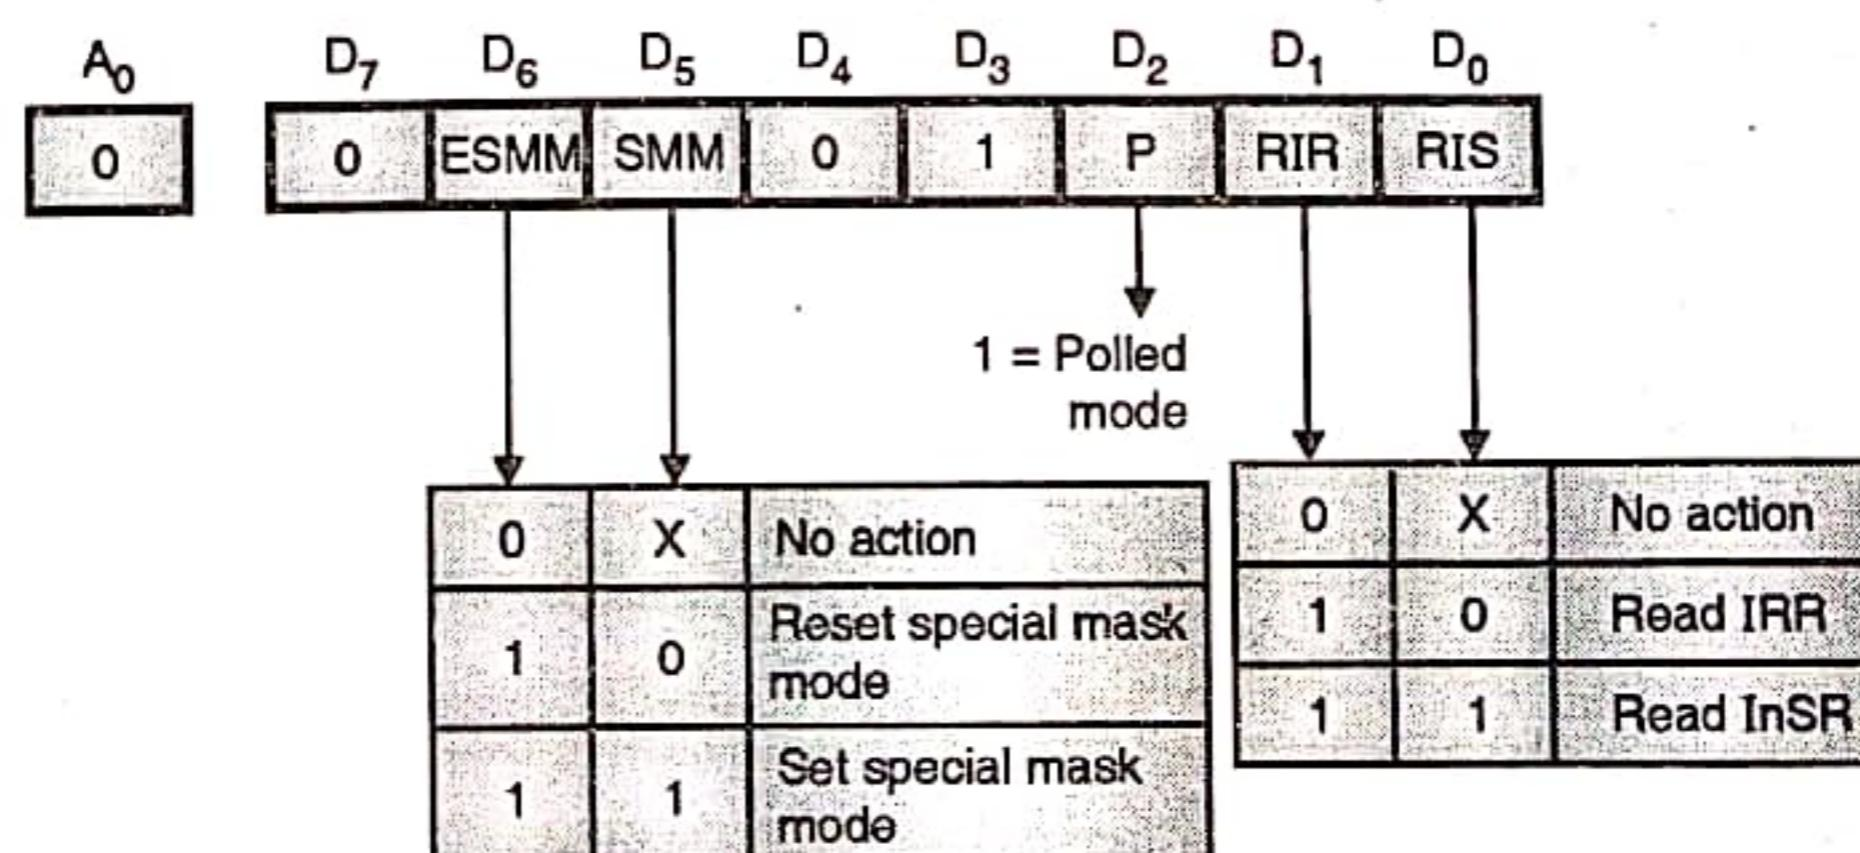

Fig. 8.8 : OCW3 format
3. Read IRR and InSR. A write command issued with A₀ = 0 and D₄D₃ = 01 is considered as OCW3. The OCW3 format is as shown in Fig. 8.8.